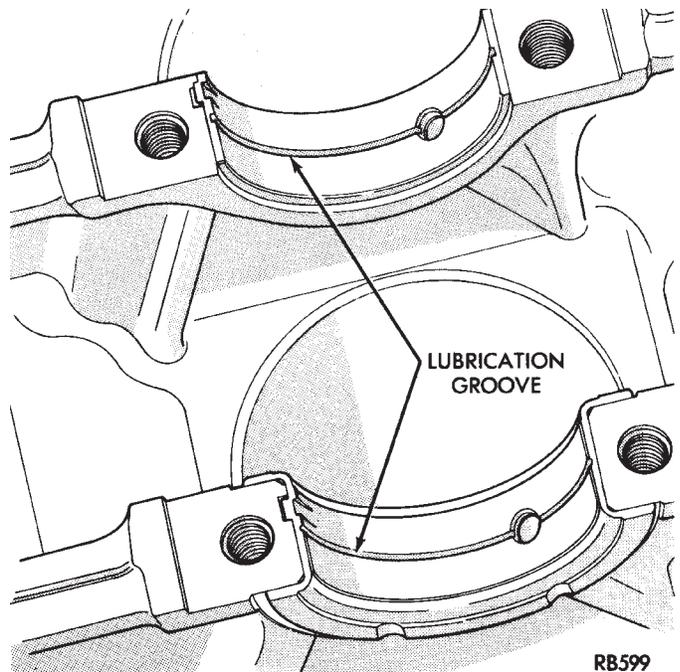

Fig. 12 Installing Main Bearing Upper Shell
(2) Install the main bearing shells with the lubrication groove in the cylinder block (Fig. 12). **The 1, 2, 4 and 5 main bearings are full groove to provide**